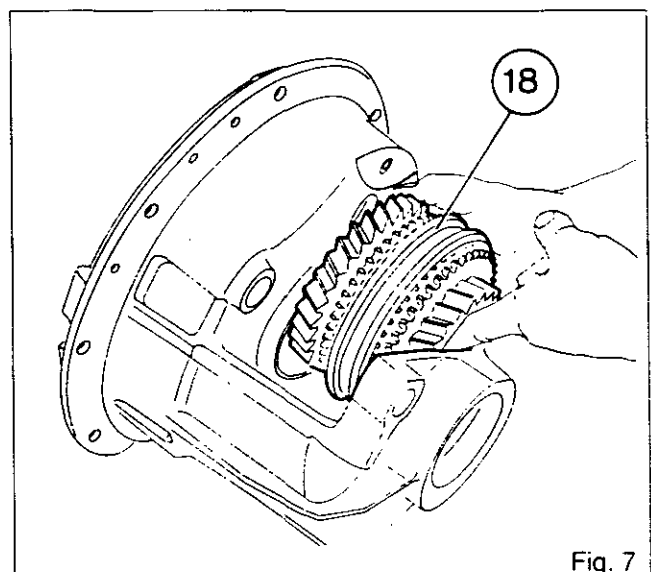

Fig. 7
25. Remove the gear and synchronism assembly (18) (Fig.7).
26. Take out bearing (9).
27. From the gear and synchronism assembly, separate: gear (5), bush (7), single-row needle-roller bearing (6), end ring (4), synchroniser brake (3), synchroniser (2), synchroniser brake (21), end ring (22), gear (23), and double-row needle-roller bearing (20).
- bearing (24) and washer /35\ (with speedshift).
29. Withdraw seal /41\ from spacer (36) and discard it (if necessary).